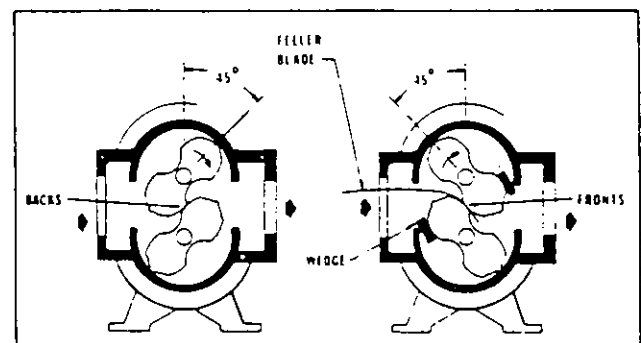

Figure 5 — Impeller Timing Viewed From Gear End
Item Numbers and their word descriptions from Figures 5 & 6. Also specify quantities wanted and the blower size and serial number from the nameplate.
3. **GEAR REMOVAL:** For this operation, the impellers should be wedged as shown in Figure 5. Back off gear clamping nuts (17) about  $\frac{1}{4}$ ". Use a puller of the type shown in Figure 10. Position it around the gear per Figure 9. As the puller set screw is torqued, the puller will have a tendency to turn and contact teeth of the other gear. To prevent this contact, hold the puller corner nut with a wrench while torquing the set screw. Once the gear is unseated, remove the puller. Remove gear nuts (17) and the gear. Repeat same procedure for the other gear. **NOTE:** Do not remove gear nuts (17) completely before the gears are unseated from the taper fits or damage/injury may result.
4. GEAR INSTALLATION: Place impellers in correct position as previously marked. Be sure shafts and gear bores are clean and free of scratches. Clean the shaft tapered fits. Place hardwood wedges as shown in Figure 5. Install drive gear (4) and gear nut (17) so match mark at tooth is at the line of engagement. Tighten the drive gear nut to the torque given in Table 5. Blower assembly must be fastened down for torquing operation.
5. Installing driven gear (4) - Insert a long, metal feeler gauge between the impellers' lobes at the fronts or backs as shown in Figure 5. Feeler gauge thickness to be a middle value from Table 6 for fronts and backs. Align the gear so the tooth match marks agree with the drive gear, then install nut (17). Tighten lightly with a small wrench, then check front and back clearances against Table 6 for each 45° position. Both fronts and backs should be about the same and within the specified range in Table 6. Adjust gear position, if necessary, then insert the corrected feeler gauge and wedges and use a torque wrench to tighten the gear nut to the torque specified in Table 5. Remove wedges and rotate the drive shaft by hand to make sure there are no gear tight spots or impeller contacts.
7. When clearances are correct, clean and re-install the gearhouse. Check condition of flange gasket (7) and replace if questionable. Fill gearhouse to correct level with proper grade of oil.